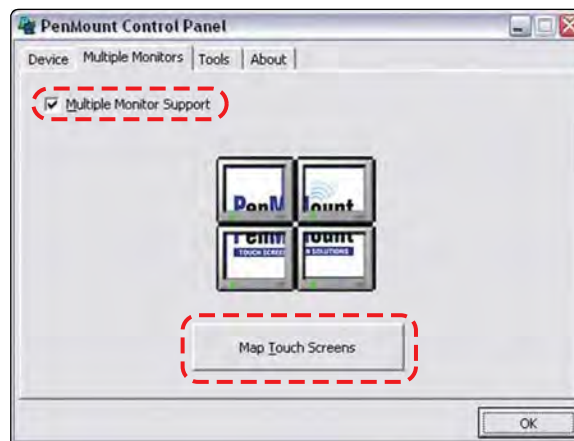

Figure 15-4 Sample Multiple Monitors tab
4. With the **Multiple Monitor Support** box checked, select the **Map Touch Screens** icon (Figure 15-4).